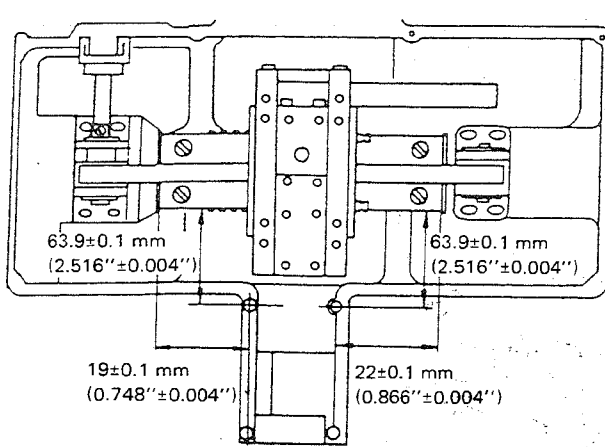

Fig. 5-46-3
- Position and fix the X-Y table according to Fig. 5-46-3 (Standard throat plate setscrew hole dia. :Setscrew hole dia. 11/64 pitch 40)
- For the belt tension adjustment, see Standard Adjustment (27), (28).)
- Do not loosen rod length adjusting screw nut ①